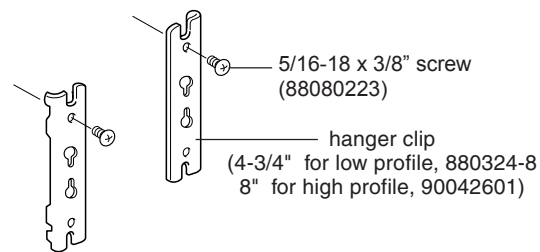

Figure 2
3. Install a 5/16-18 x 3/8" phillips screw into each hanger clip at opposite ends, leaving a 3/16" gap between the screw and clip. (Figure 2)